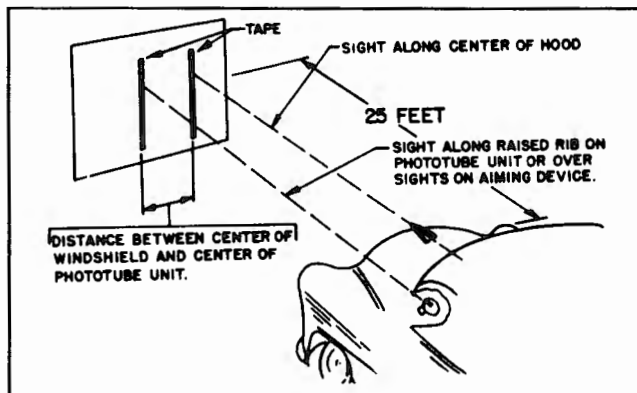

Fig. 14-25 Checking Horizontal Aim
1. Locate the car approximately 25 feet from a vertical wall or screen (Fig. 14-25).